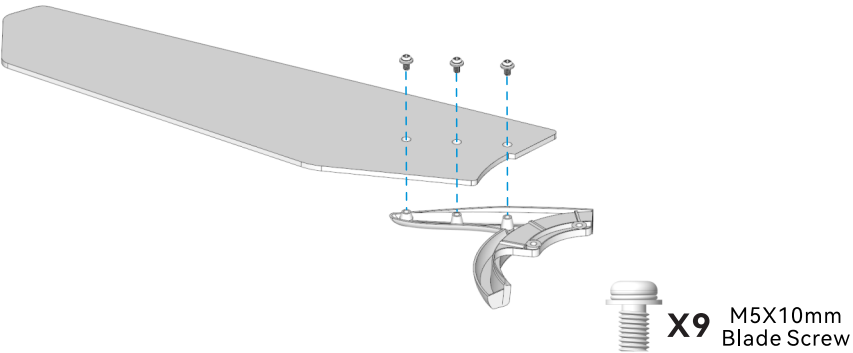

Fig. 1.1
- 1.1 Locate the 9 blade attachment screws included in the hardware pack. Use these screws to firmly attach each blade to the blade bracket, as demonstrated in Fig. 1.1.